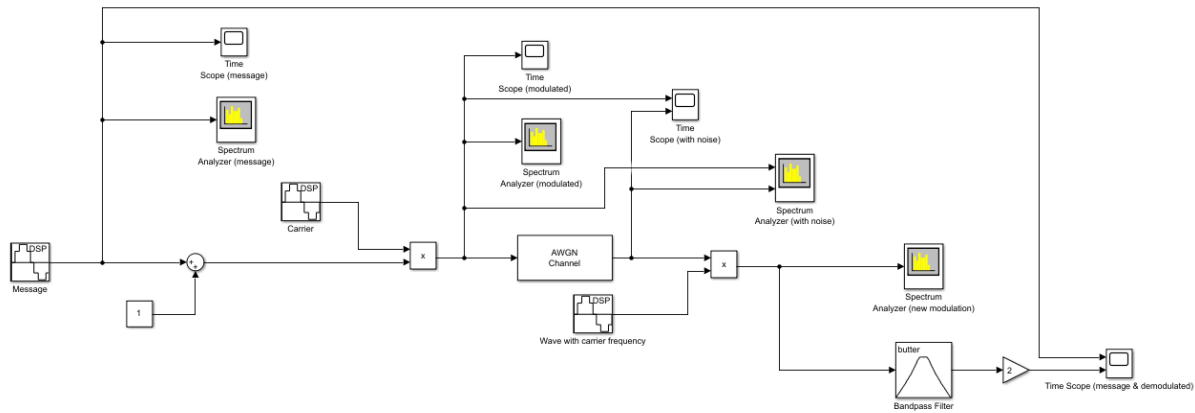

Figure 25: Final model for amplitude modulation, transmission, demodulation and amplification.
6. To return the demodulated signal to the same amplitude as the original message signal, add a “Gain” block after the Butterworth filter with a gain of 2. Your model will now look like the model in Figure 25. View the resulting signal alongside the original message signal. What effect would decreasing the SNR of the AWGN Channel block have on the demodulated signal? Verify this by varying the SNR.